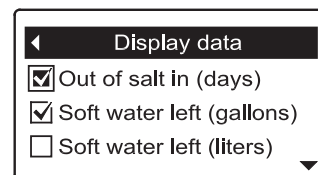

FIG. 65
4. Press the SELECT (○) button to display the Display data screen (See Figure 65).